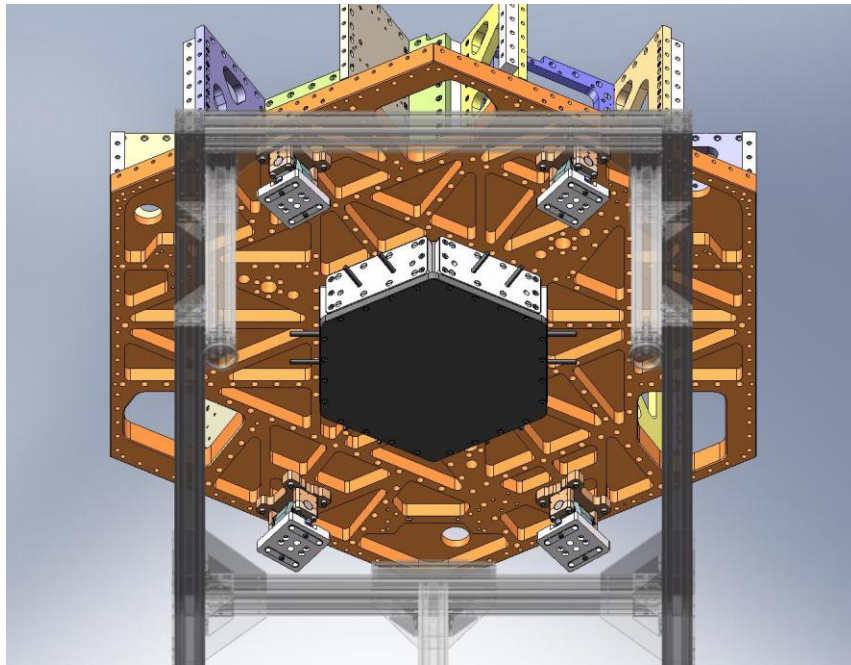

Figure 2.68. Locker Assemblies bolted to bottom of Stage 1 Floor. Knurled ends of Locker Sleeves must face outward.
2.4 Mount (4) Locker Assemblies underneath Stage 1
- Lift each **Locker Assembly** up against the bottom of the **Stage 1 Floor**, as shown in Figure 2.68. Make sure that pins seat properly in mating holes and slots. *Orientation is important: the knurled end of the **Locker Sleeves** should face outward, so later they can be accessed for locking/unlocking.* Start screws into the **Floor**. Snug all (4) screws on each unit, then torque to final spec.